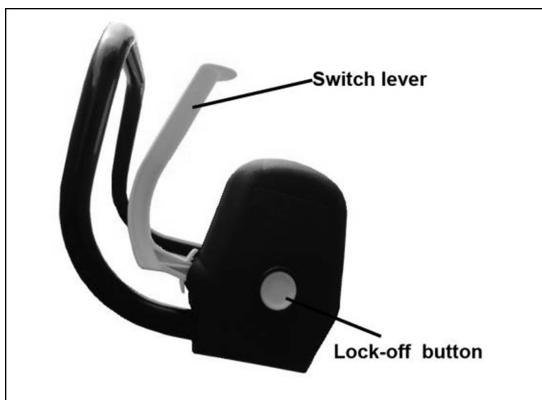

Fig.4
2. Starting and Stopping your Tiller (Fig.4)